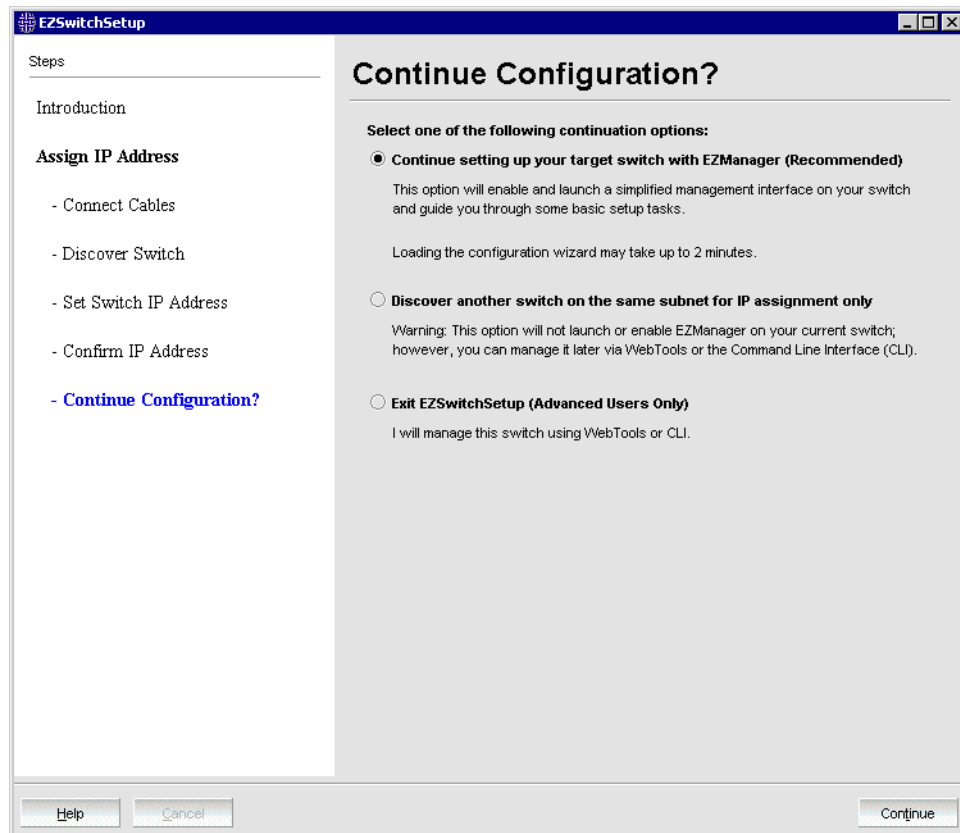

FIGURE 11 Continue Configuration window
1. Check the displayed addresses carefully to be sure they are correct, then click **Next**. The **Continue Configuration?** window is displayed (Figure 11).